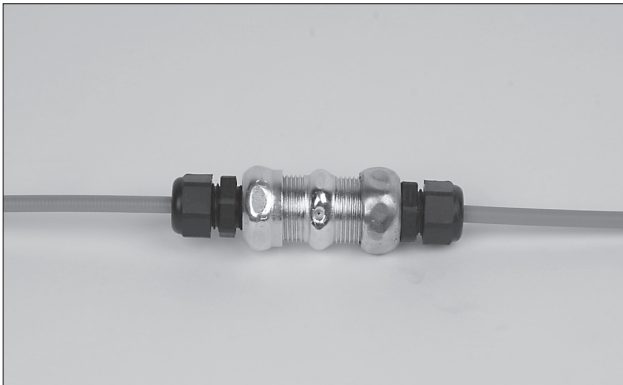

FIGURE 5-107
11. Push the flexible conduit into the strain relief until it is approximately 1/16 in. (1.6 mm) from the bottom of the flexible conduit insert, then tighten the strain relief nut onto the strain relief body. See Figure 5-107.